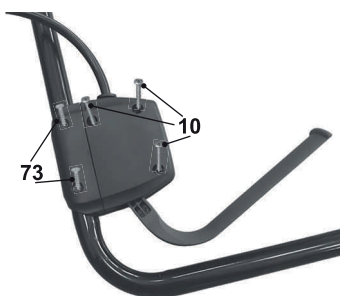

Fig. 13
1. Remove the 3 self-tapping screws ST4.2\*16 (10) and 2 self-tapping screws (73) using a Philips #2 screwdriver (Fig. 13) and open the switch box.